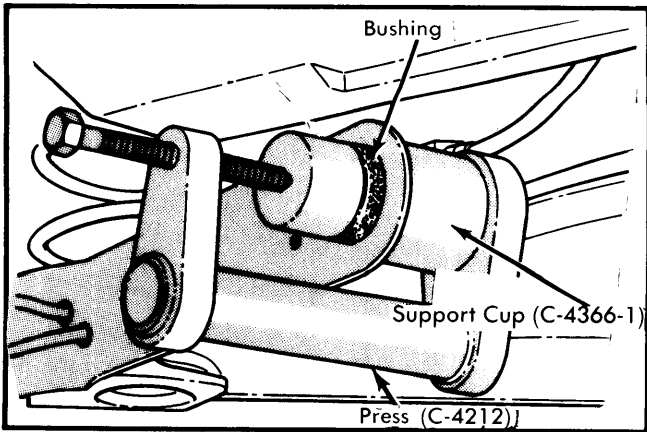

Fig. 2 Removing Pivot Bushing
2) Wedge bushing end of trailing arm down slightly with a block of wood. Remove pivot bolt and spacer. Position bushing remover tool (C-4702) over support cup (C-4366-1) and press (C-4212). See Fig. 2.